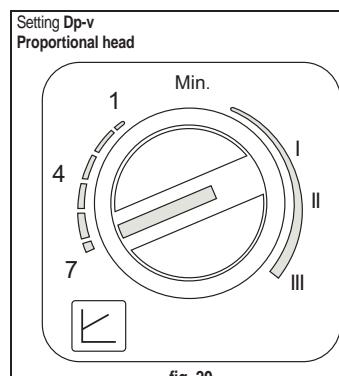

fig. 20
- Proportional Head Dp-v setting (fig. 20)